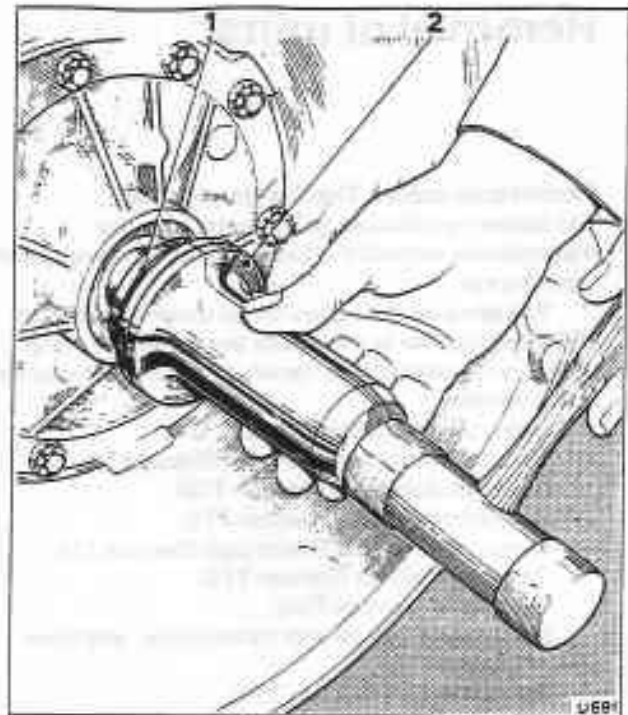

Fig. T5-5 Fitting the oil pump seal
5. Lightly smear the outer edge of the seal case with Wellseal. Then, fit the seal to the pump using tool RH 7953 as shown in figure T5-5.